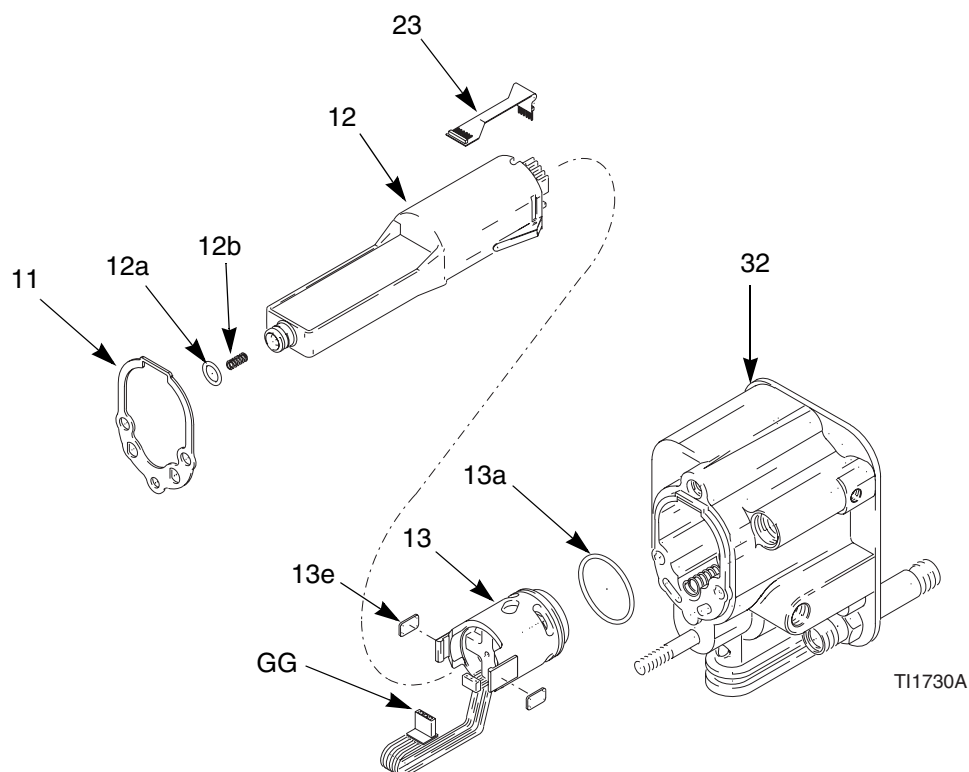

Fig. 36. Power Supply
3. Grasp the power supply (12) with your hand. With a gentle side to side motion, free the power supply/alternator assembly from the gun body (32), then carefully pull it straight out. Disconnect the flexible circuit (23) from the socket at the top of the body (32). See FIG. 36..
4. Disconnect the 3-wire connector (GG) from the power supply. Slide the alternator up and off the power supply. Inspect the power supply and alternator for damage. Disconnect the 6-pin flexible circuit (23) from the power supply.